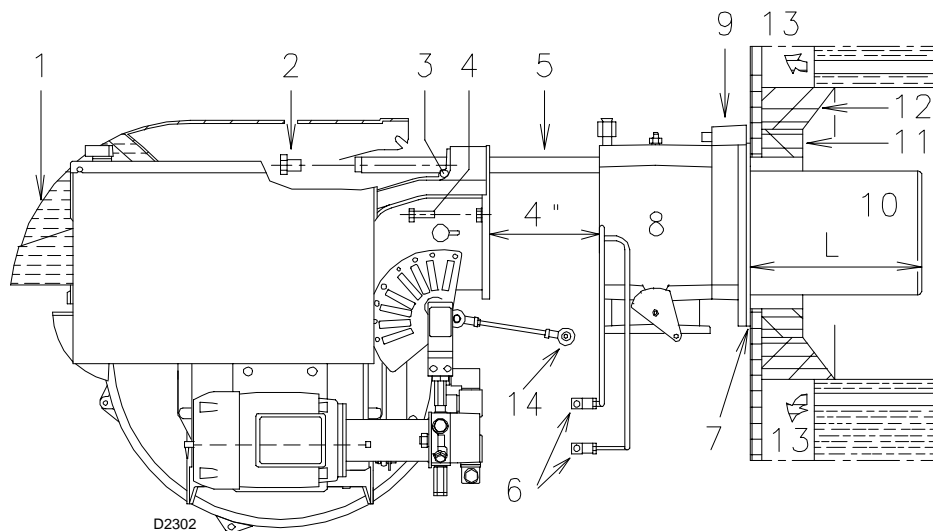
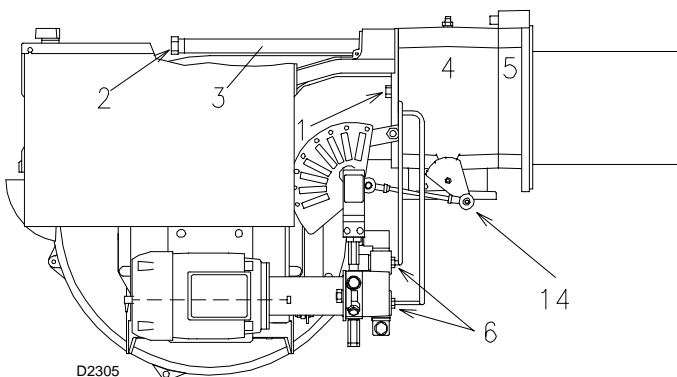

Fig. 7
Fig. 15
For boilers having a water-cooled front, the insulation 11)-12) (Fig. 7) is not required unless it is required by the boiler manufacturer.
Detach the combustion head from the burner, (Fig. 7):
Once this operation has been carried out, secure the flange 9) (Fig. 7) to the boiler plate, inserting the gasket 7) supplied with the burner.
- Refit the burner to the slide bars 3)(Fig. 15) at approximately 4" from the sleeve 4) - burner positioned as shown in (Fig. 7, page 15)
- insert the ignition electrode cables and then slide the burner up to the sleeve so that it is positioned as shown in Fig. 15.
- Refit screws 2) (Fig. 15) on slide bars 3).
- Connect the oil pipes again by screwing on the two connectors 6) (Fig. 7, page 15).